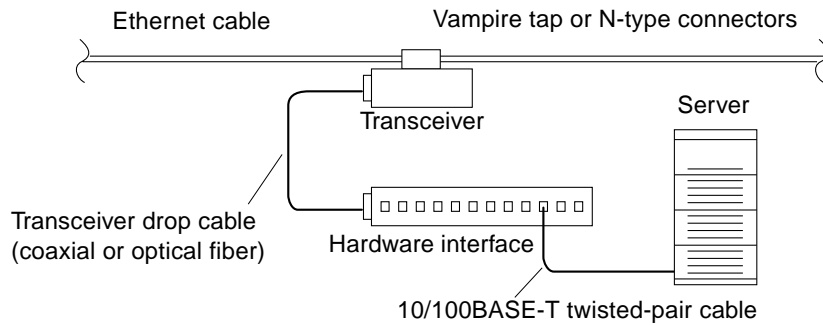

FIGURE 2-6 Connecting Twisted Pair Ethernet to N-type Coaxial Cable
FIGURE 2-6 shows a typical arrangement for connecting the system to an Ethernet network.
- If the Ethernet cable lacks N-type connectors at the ends, use a “vampire” tap to connect the cable to the transceiver (FIGURE 2-6). To connect the cable to the transceiver, use instructions provided with the “vampire” tap.
FIGURE 2-6 shows the elements used in the installation process.